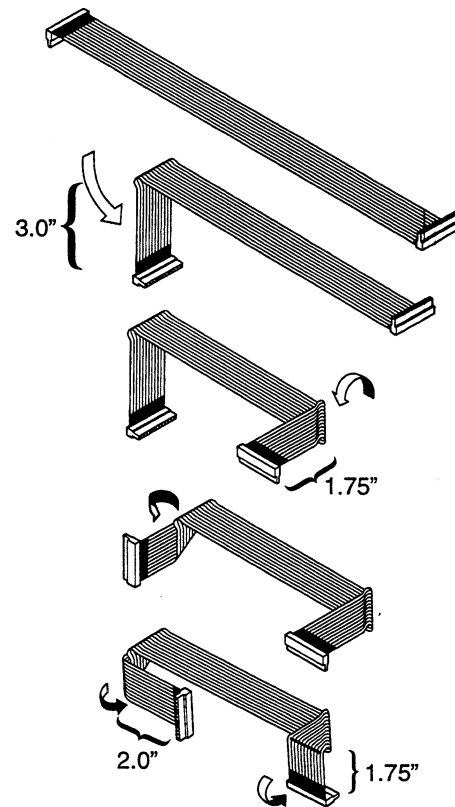

Figure 2-2. Folding the 12-Position Cable
1. Locate the two (2) flat ribbon cables in kit HKN9015.
3. Locate the two (2) T20 cap head screws in kit HLN9015.
7. Secure the control head to the bracket with the two (2) T20 cap head screws using a T15 Torx driver. Tighten to 1.69 N-m (15 in.-lbs.) torque.
8. Fold the 12-position flat ribbon cable as shown in Figure 2-2.